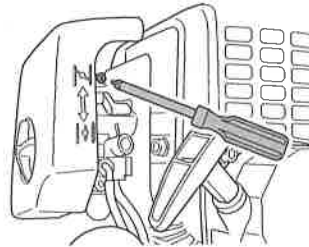

Fig. 16
**Carburetor adjustment (Fig. 16)**